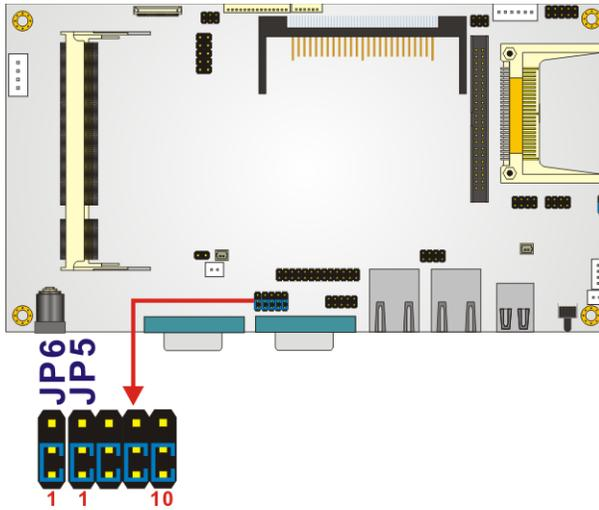

Figure 3-6: COM2 Select Jumper Location
- Jumper Location:** See **Figure 3-6**
The location of the COM2 Select jumper is shown in **Figure 3-6** below.